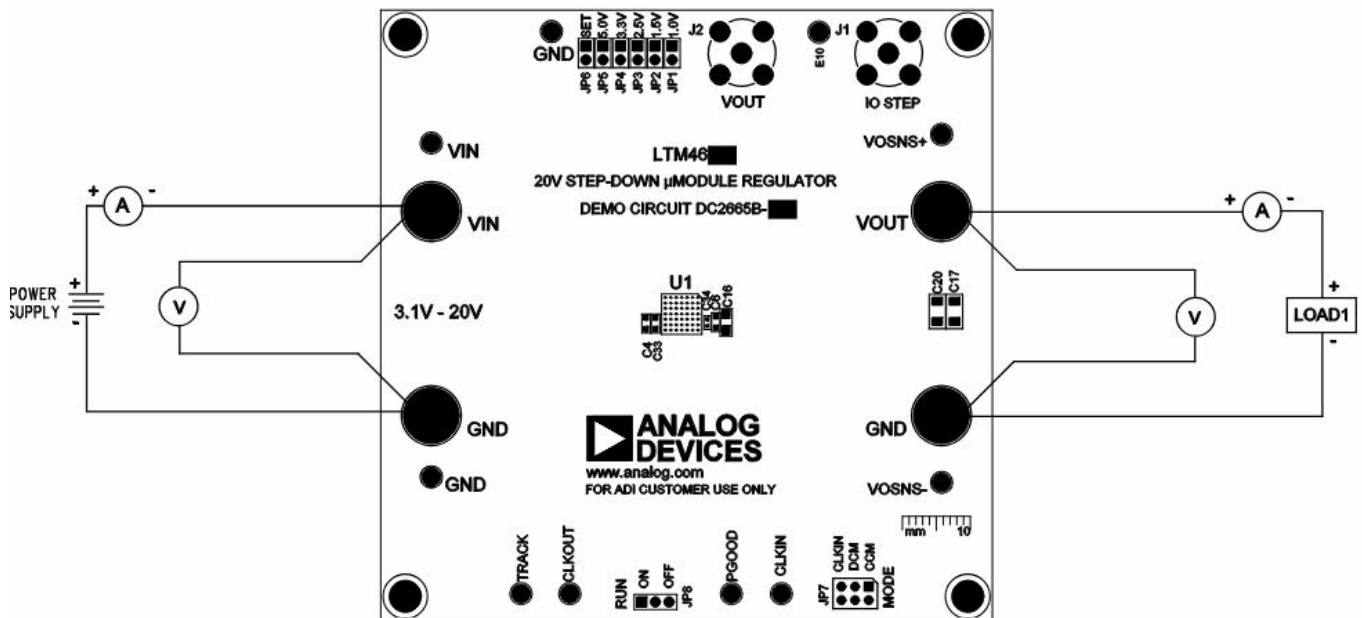

Figure 1. Test Setup of DC2665B-A
3. Connect the load, input voltage supply, and meters as shown in Figure 1 with power off.
Demonstration circuit 2665B-A is an easy way to evaluate the performance of the LTM4626EY. Refer to Figure 1 for test setup connections and use the following procedure.
3. With the power off, connect the load, input voltage supply, and meters as shown in Figure 1.